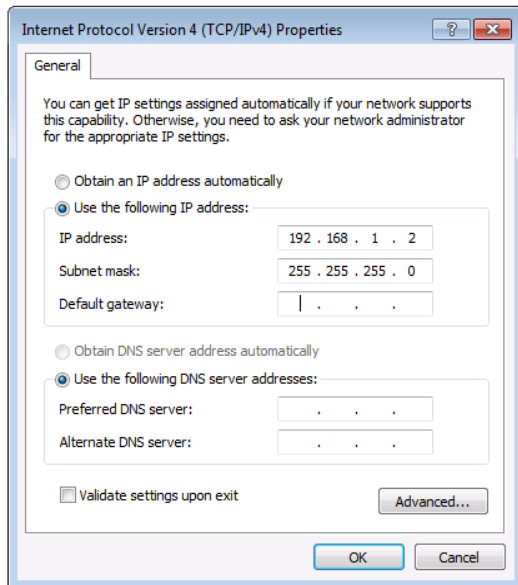

Figure 213: Internet Protocol Properties Window
6. Select **Use the following IP Address** for static IP addressing and fill in the details as shown in Figure 213. For TCP/IPv4 you can use any IP address in the range 192.168.1.1 to 192.168.1.255 (excluding 192.168.1.39) that is provided by your IT department.